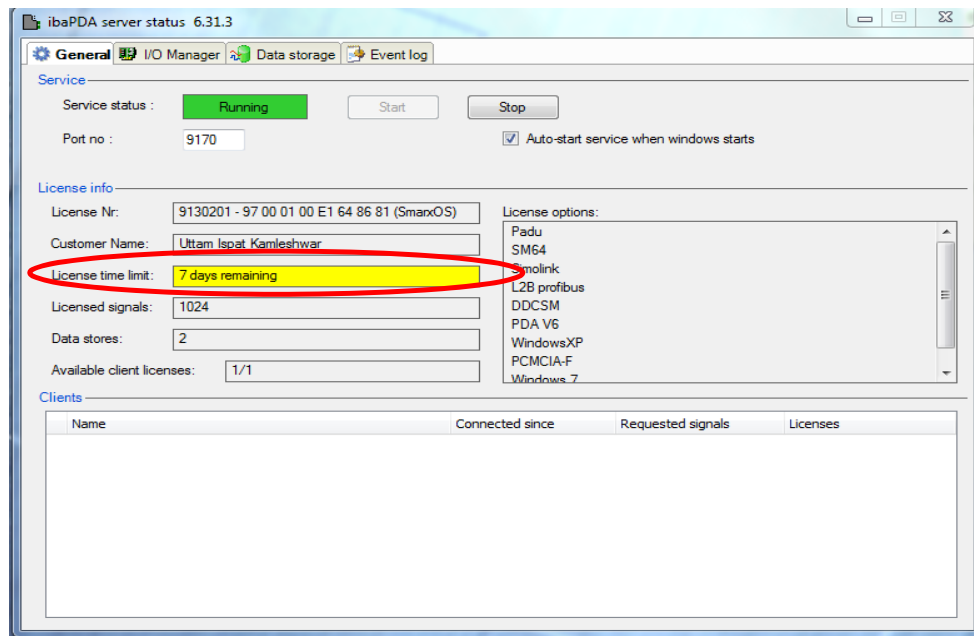

Figure 4: License Status
- Insert the iBA dongle provided and wait for the status screen to show the details of the license as shown in Figure 4.
- Usually iBA dongle comes with Temporary License with validity period of 90 days (refer Figure 4). After installation, we have to provide necessary details to iBA Technical Support team to provide Patch File for Permanent License. After the installation of Patch File, License time limit will becomes unlimited.